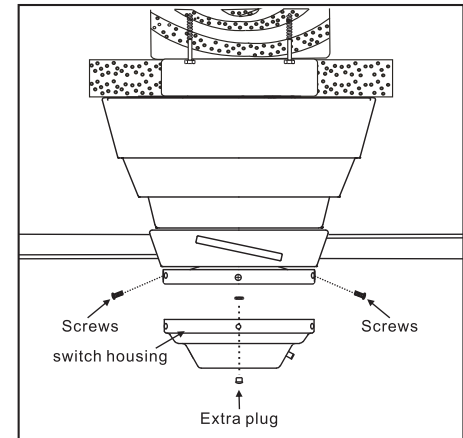

Figure 16
2. Attach the extra plug to the switch housing with nut previously loosened and tighten securely. (Figure 16)
3. Holding the switch housing under your fan, snap together the wire connection plug.(Figure 16)
4. Install the switch housing to the mounting plate with the screws provided in the loose parts bag. (Figure16)